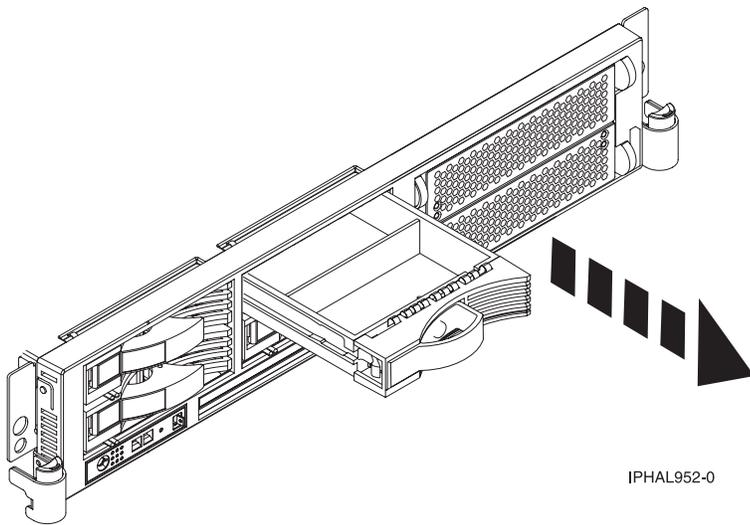
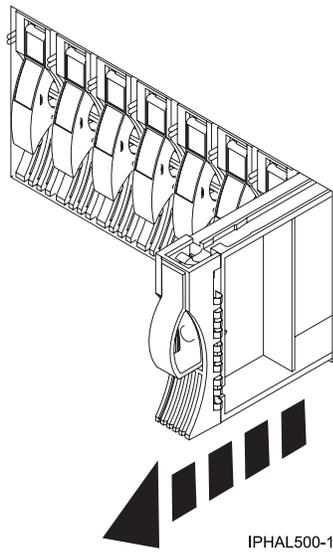

Figure 45. Removing a disk-drive filler from a model 51x or 710
Figure 46. Removing a disk-drive filler from a model 285, 52x, 55x, 9116-561, or 570
- a. Pull the disk-drive filler from the slot you want to use, as shown in Figure 45 or Figure 46 on page 47.